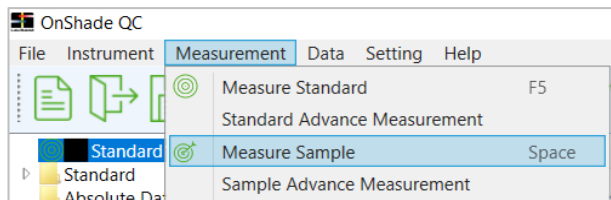

Figure 21: Measure Sample menu
2. From the menu select “Measurement”>“Measure Sample” (Figure 21) or click the Sample Measurement icon  from the toolbar or use the shortcut key Space.
The “Sample Advance Measurement” option shown in Figure 21 can be used to tailor the settings before taking sample measurements. Once you have tailored the settings, click “Measure” (Figure 22) to take a measurement.